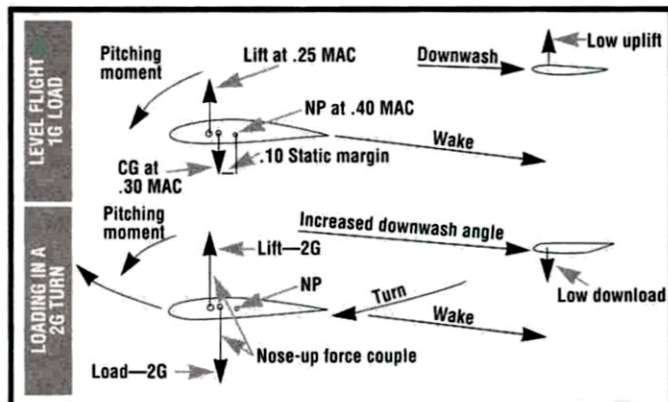

Figure 5. CG aft of .25 MAC loading in a 2G turn.
■ **CG aft of the aerodynamic center** (Figure 5). In this configuration, the CG is slightly behind the wing's aerodynamic center at the 25 percent MAC location by 2 to 5 percent MAC. A modest increase in the horizontal tail's area of 3 to 5 percent of the wing's area will move the neutral point aft and maintain a healthy static margin of 10 percent MAC.